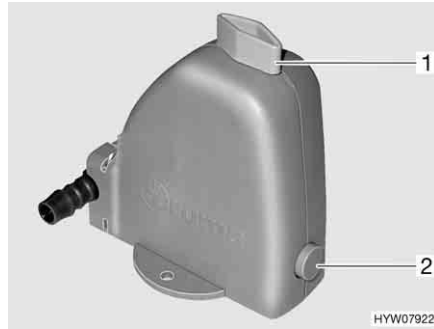

Fig. 181 Safety/drainage valve of the boiler
The boiler is equipped with a safety/drainage valve (Fig. 181). The safety/drainage valve prevents water in the boiler from freezing, when there is frost and the heater is not switched on.
- Close the safety/drainage valve. Turn the knob (Fig. 181,1) perpendicular to the safety/drainage valve and push the push button (Fig. 181,2) in.
- Open the safety/drainage valve. To do this turn the knob (Fig. 181,1) parallel to the safety/drainage valve. The push button (Fig. 181,2) jumps out. The boiler is drained to the outside by the safety/drainage valve.